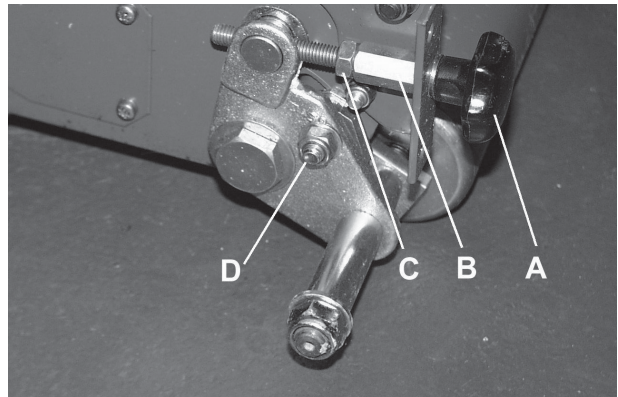

Fig. 8.3
8.3 SUPER CERTES/SUPER BOWL: HEIGHT OF CUT ADJUSTMENT (Fig. 8.3)